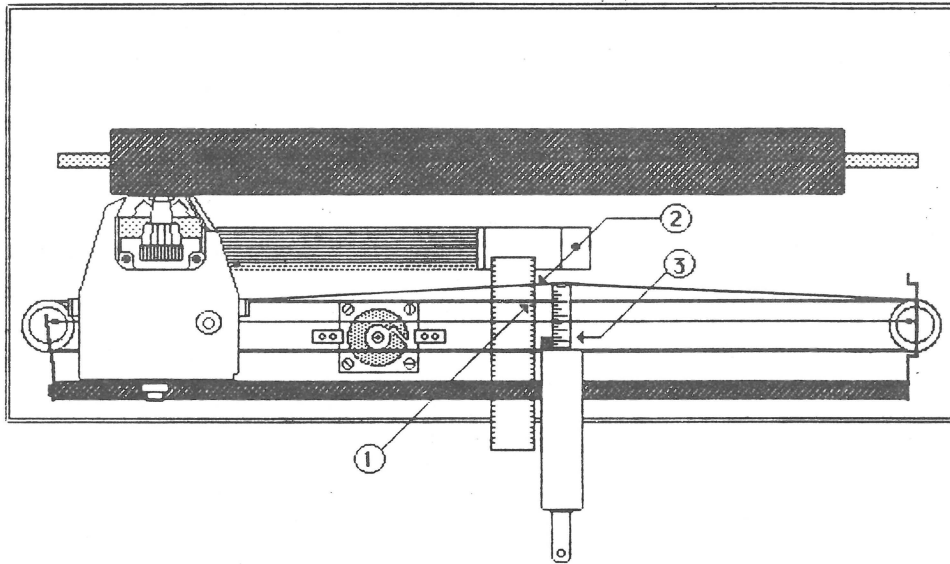

FIGURE 9
13. With the carrier pushed all the way to the left, lay a ruler under the carrier wire (see Figure 9, #1) and visually mark the point where the rear carrier wire crosses the ruler.
14. Push the rear carrier wire at its center until it has been pushed $\frac{3}{8}$ inch away from its original position (see Figure 9, #2), check the tension gauge (see Figure 9, #3). It should read 1 pound (lb.). If it doesn't, adjust the screw of the tension arm and recheck.